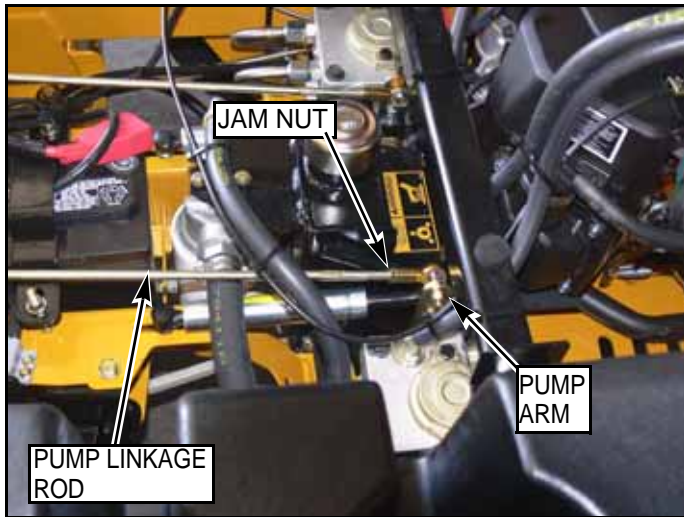

FIG. 22
Fine adjustment to the unit's steering is made with the adjustable pump linkage rods located between the control lever and pump arms "FIG. 22".
4. If wheel(s) are rotating forward, loosen the jam nuts on the pump linkage rods and rotate the rod to lengthen the steering control linkage until the wheel(s) come to a stop "FIG. 22". Repeat for the opposite side if necessary.
5. If wheel(s) are rotating in reverse then loosen the jam nuts on the pump linkage rods and rotate the rod to shorten the steering control linkage until the wheel(s) come to a stop "FIG. 22". Repeat for the opposite side if necessary.